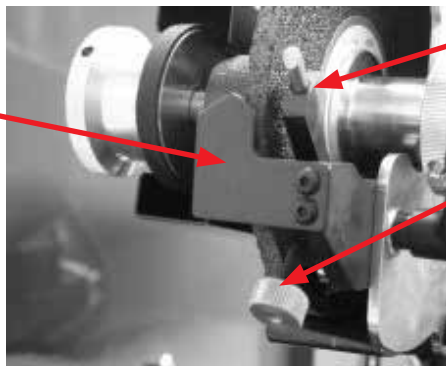

FIG. 24
2. Use the travel limit knob to adjust the stop position of the moveable finger. The moveable finger stop needs to be adjusted so that the reel blade makes a smooth transition from the index pin onto the fixed finger. See FIG. 24.